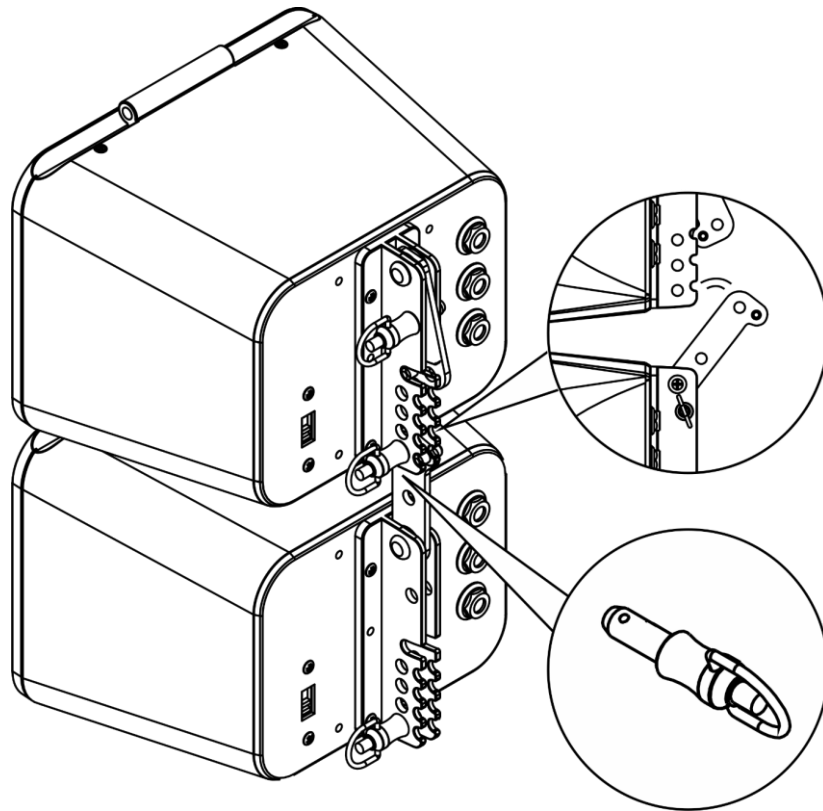

Fig. 05
- 02) Mount the Xi-3 speakers on the Wall Bracket, from the top downwards, and insert the rigging pins to connect them to each other (fig. 04 and fig. 05).
02) Mount the Xi-3 speakers on the Suspension Bracket, from the top downwards (see fig. 04 and fig. 05).
- 05) Mount more Xi-3 speakers, from the bottom upwards, on the top of the already mounted first Xi-3 speaker (fig. 04 and fig. 05).